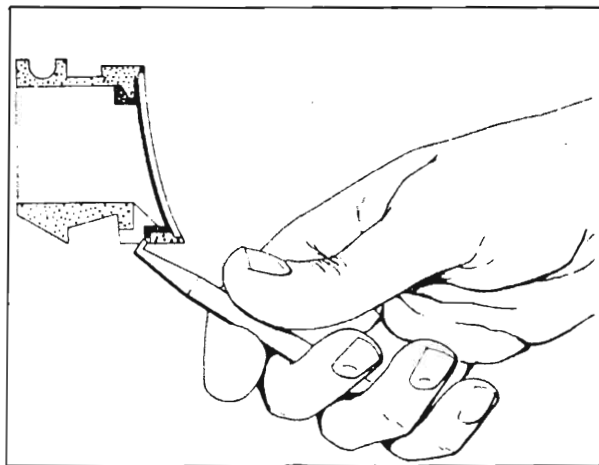
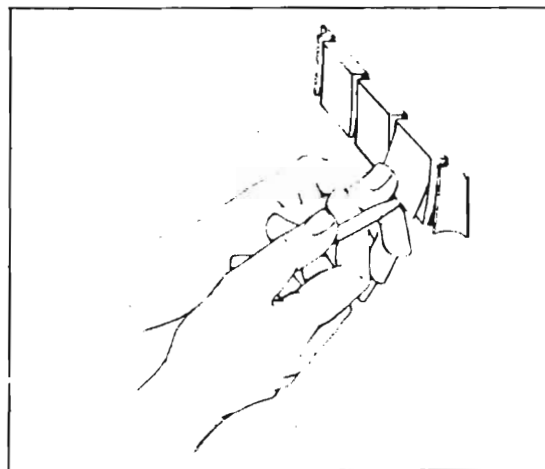

Figure 1
Figure 2
1. Place the end of the thumb of one hand over the corner of the pushbutton switch. With the bulb extractor tool in the other hand, place the hooked end of the tool into the front of the slot on the bottom of the pushbutton (Figure 1) and gently push up until the lower end of the pushbutton lens pops out as shown in Figure 2.